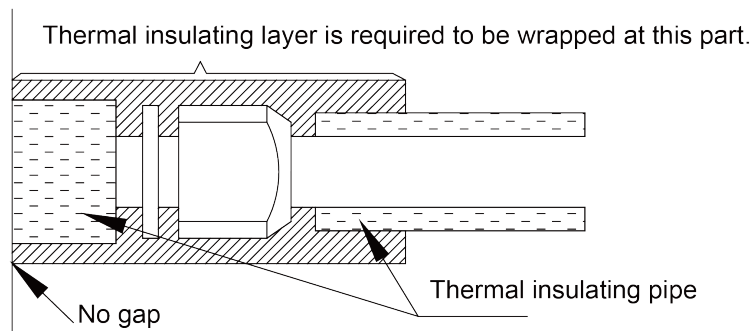

Fig. 22
- 4) Joints of indoor and outdoor unit should be wrapped with insulating material and leave no gap between pipe and wall. See Fig.22.